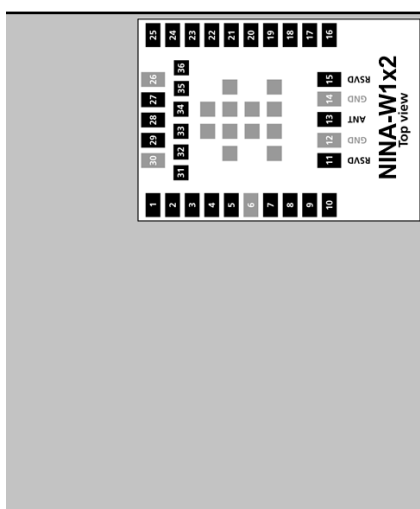

Figure 21: Placement of NINA-W1x2 with internal PIFA antenna
- The module shall be placed in the corner of the host PCB with the antennas feed point in the corner (pins 15 and 16), as shown in Figure 21. Other edge placements positions, with the antenna closest to the edge, are also possible. However, these placements give only a moderately reduced antenna performance compared to a corner placement.